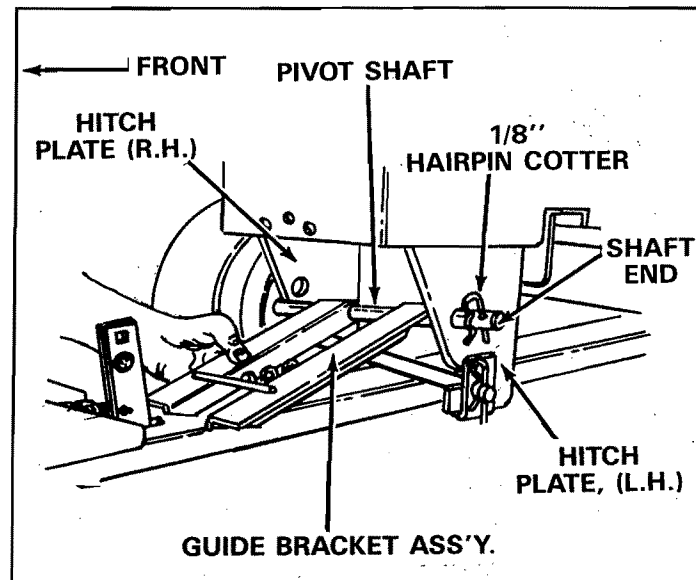

FIGURE 17
17. Assemble guide bracket assembly shaft end into the left hand hitch plate. See figure 17. Slide guide assembly back to the right and into hole of the right hand hitch plate. Secure with a 1/8" (large) hairpin cotter in each end. See figure 17. Lower front end of guide bracket assembly to straddle channel assembly.